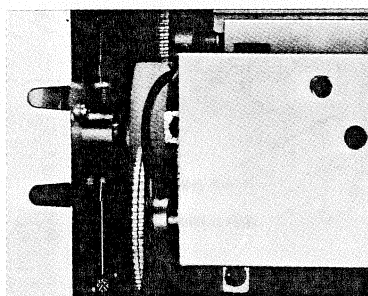

Fig. 2-5
3. Loosen the two screws marked * in Fig. 2-5, which hold the tuning shaft.